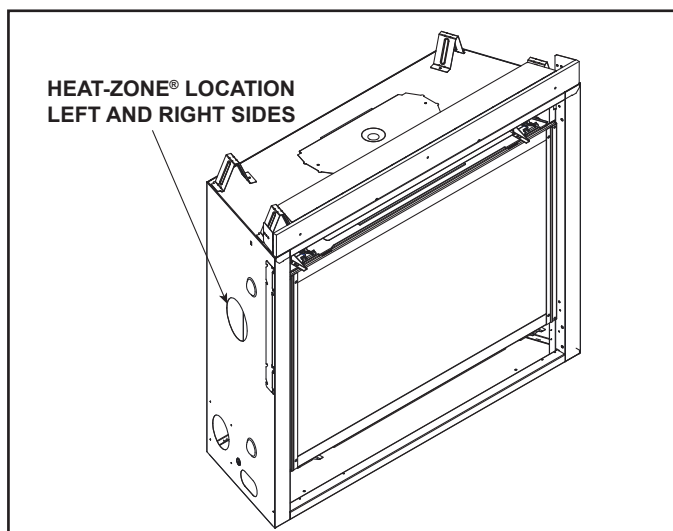

Figure 6.14 Heat-Zone® Locations
- Locate the Heat-Zone® ports on the left and right sides of the appliance. Either one or two Heat-Zones® may be installed. See Figure 6.14. Remove the knockouts from the appliance with a tin snips.